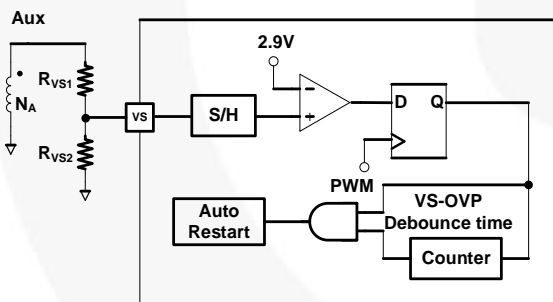

Figure 47. VS-OVP Protection Circuit
VS over-voltage protection prevents damage caused by output over-voltage condition. It is operated in Auto-Restart mode. Figure 47 shows the internal circuit of VS-OVP protection. When abnormal system conditions occur, which cause VS sampling voltage to exceed  $V_{VS-OVP}$  ( $2.9\text{V}$ ) for more than 2 consecutive switching cycles ( $N_{VS-OVP}$ ), PWM pulses are disabled and FAN602 enters Auto-Restart protection. VS over-voltage conditions are usually caused by open circuit of the secondary-side feedback network or a fault condition in the VS pin voltage divider resistors. For VS pin voltage divider design,  $R_{VS1}$  is obtained from Equation (10), and  $R_{VS2}$  is determined by the desired VS-OVP protection function as: